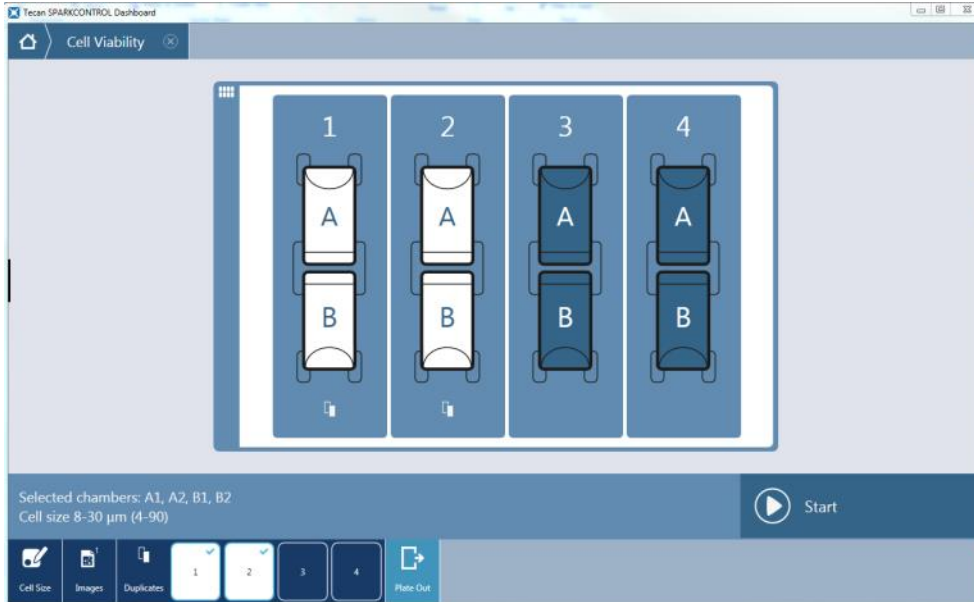

Figure 127: Cell Viability start window
1. Select the **Cell Viability** application tile and the start window appears (Figure 127: Cell Viability start window).